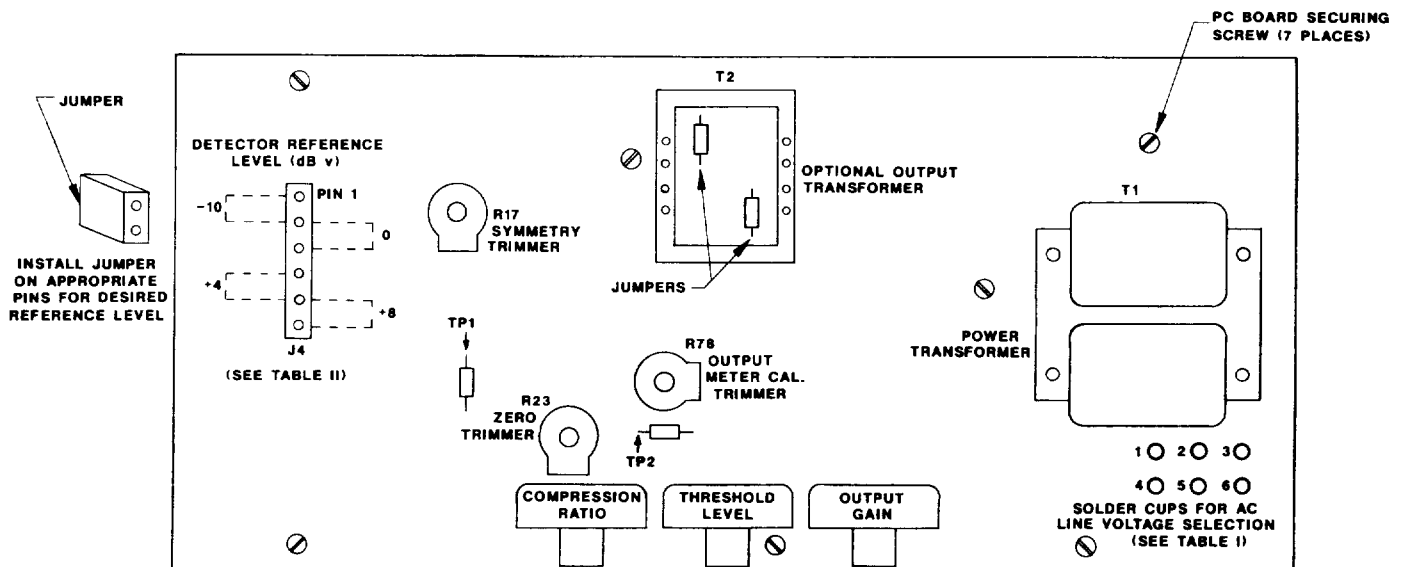

Figure 1. Location of Pertinent Components on Circuit Board
3. Locate the six voltage selection solder cups on the right side of the circuit board in front of the power transformer. See Figure 1 for location. Referring to Table I, unsolder the jumper wires from the solder cups and resolder them in
3. Select the desired nominal level by placing the jumper on two pins of the six-pin male connector (J4) located near the upper left edge of the circuit board as shown in Figure 1. Table II shows the pin
4. Feed a 1 kHz signal at the selected nominal level (the level desired for a "0 dB" meter indication) to the signal input. Then adjust the meter calibration trimmer (R78) located near the center of the circuit board until the meter indicates "0 dB". See Figure 1 for location of calibration trimmer.
3. Remove the seven screws securing the printed circuit board. Locate the mounting holes near the top of the circuit board. See Figure 1 for these locations.